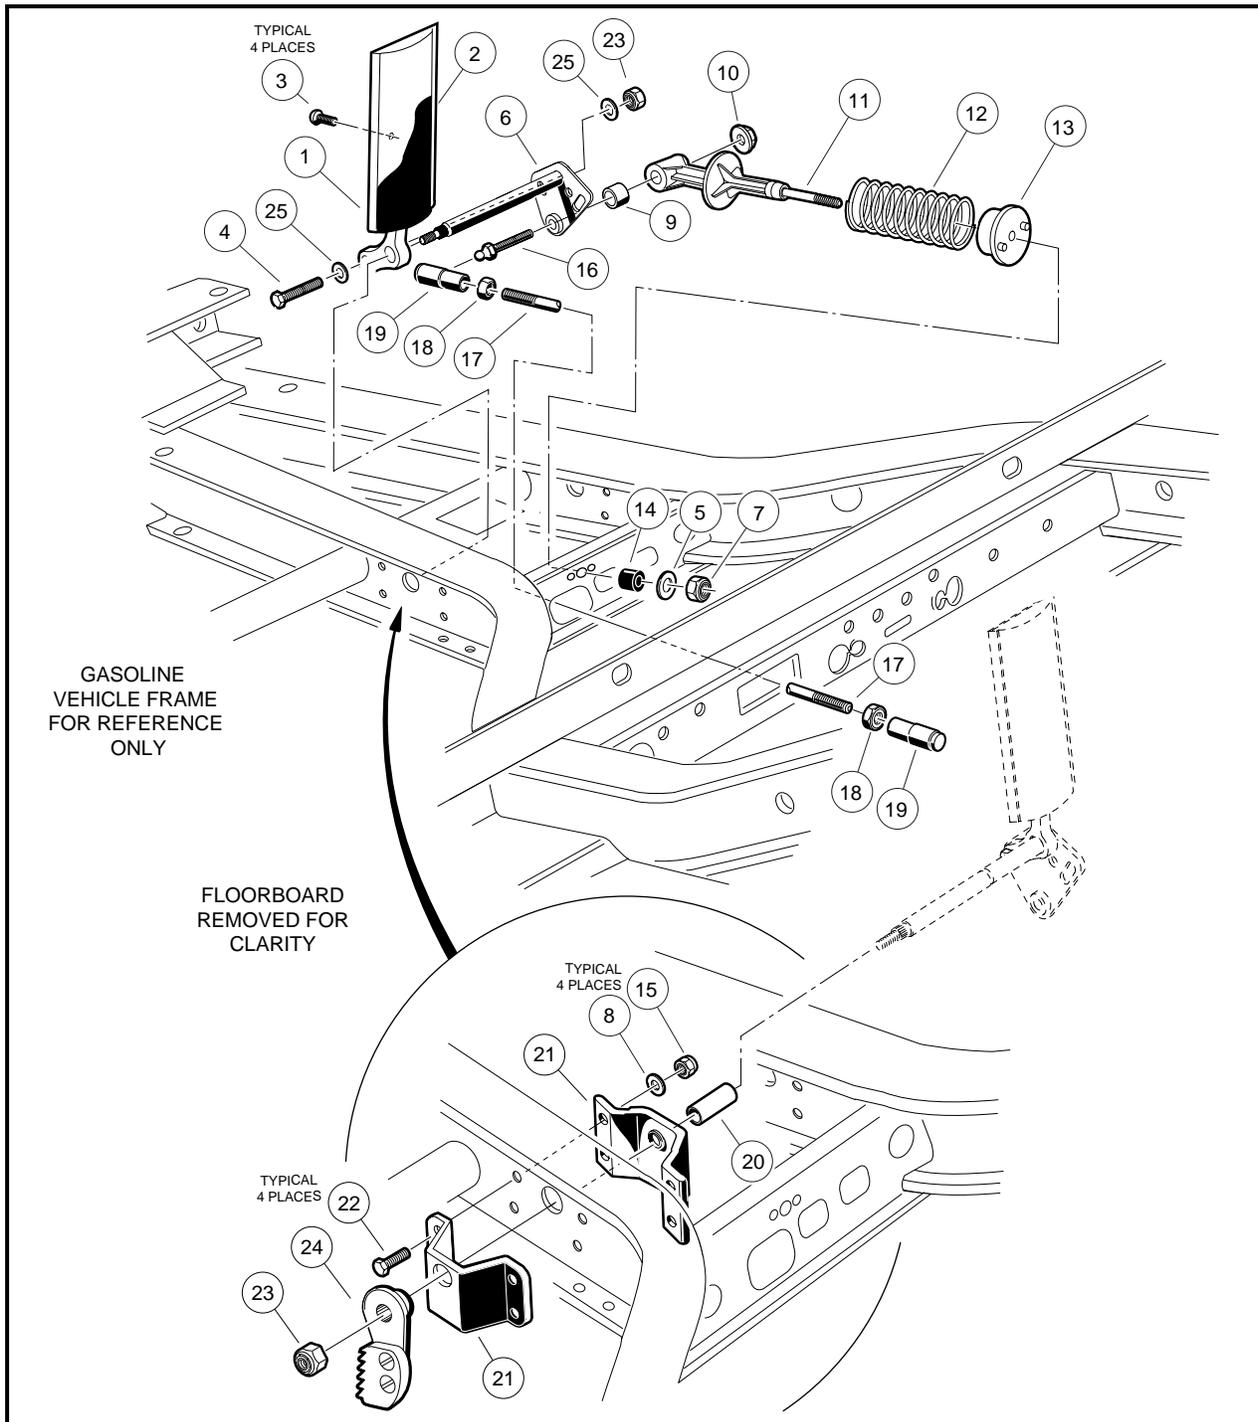

Figure 5-11 Accelerator Pedal Assembly and Mounting
- 4.2. Disconnect the accelerator rod (17) at the accelerator pedal, then loosen the jam nuts (18) and adjust the length of the rod (**Figure 5-11, Page 5-7**) to obtain an accelerator cable cam position of 15°-17° as shown (**Figure 5-10, Page 5-6**). **See following CAUTION.**
- 4.4. While holding accelerator rod (17) with pliers, loosen the jam nut (18) and adjust the ball joint (19) sleeve to fit on the wiper switch ball stud, with approximately the same number of threads showing at each end of the rod. Then tighten jam nut (18) against the sleeve (**Figure 5-11, Page 5-7**).
3. Remove the nut (23), two washers (25), and bolt (4) securing the accelerator pedal (1) to the pivot rod (6) (**Figure 5-11, Page 5-7**).
4. Disconnect the accelerator rod assembly (17, 18, and 19) (**Figure 5-11, Page 5-7**) at the front and rear ball studs and remove it from the vehicle.
5. Remove the nut (10), ball stud (16), and pivot support bearing (9) from the accelerator pivot rod assembly (6) (**Figure 5-11, Page 5-7**).
6. Slide the spring retainer (11) off of the accelerator pivot rod.
7. Use a scribe to mark the position of the park brake ratchet (24) on the accelerator pivot rod (6) (**Figure 5-11, Page 5-7**). **See following NOTE.**
8. Remove the lock nut (23) from the accelerator pivot shaft (**Figure 5-11, Page 5-7**).
9. Depress the brake pedal slightly and then slide the park brake ratchet (24) (**Figure 5-11, Page 5-7**) toward the end of the accelerator pivot rod. Rotate the ratchet and remove it from the pivot rod.
10. Pull accelerator pedal (2) out of vehicle from the top side of the floorboard (**Figure 5-11, Page 5-7**).
1. Insert the lower end of the accelerator pedal (1) through the floorboard and install the accelerator pivot rod (6) through the uppermost hole in the pedal. Insert the bolt (4) through the lower hole in the pedal and through the pivot rod. Install the two washers (25), and nut (23) on the bolt. Tighten the nut with fingers only at this time (**Figure 5-11, Page 5-7**).
2. Install the plastic spacer (20) on the pivot rod (**Figure 5-11, Page 5-7**).
4. Install the ball stud (16) through the pivot rod. Using needle-nose pliers, install the pivot support bearing (9) and the spring retainer (11) onto the ball stud. Secure these parts with the nut (10) (**Figure 5-11, Page 5-7**). Tighten the nut to 50 in.lb (5.5 N-m). **See following CAUTION.**
8. Install nylon lock nut (23) (**Figure 5-11, Page 5-7**) on pivot rod. Tighten the nut to 18 ft.lb (24.5 N-m).
9. Install the accelerator rod assembly (17, 18, and 19) (**Figure 5-11, Page 5-7**).